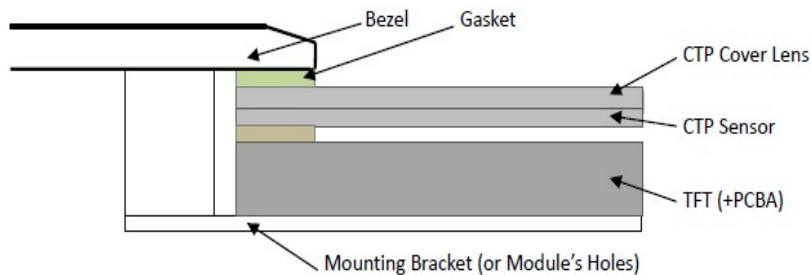

Figure 1
**8.1 Bezel Mounting (Figure 1)**
**8.1 面框安装 (附图 1)**